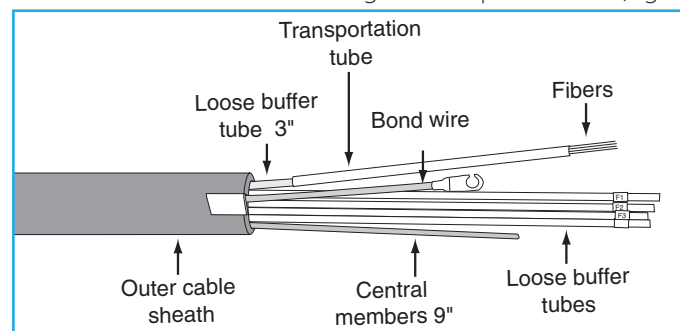

Figure 5.
7.1.7 Carefully ring cut and remove all but three inches of each buffer tube. Clean the remaining buffer tubes, exposed fibers, strength member, and 6" of the cable sheath with a cloth and company-approved cleaning solution. (Figure 5)